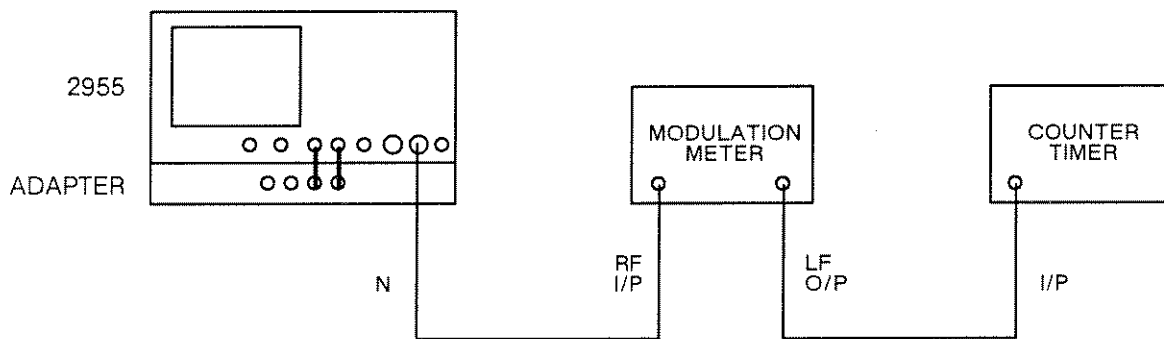

Fig. 5-1 Test equipment for SAT frequency and deviation tests
- (1) Connect the 2955 RF IN/OUT N socket to the modulation meter RF input socket and connect the counter/timer to the modulation meter LF output socket as shown in Fig. 5-1.